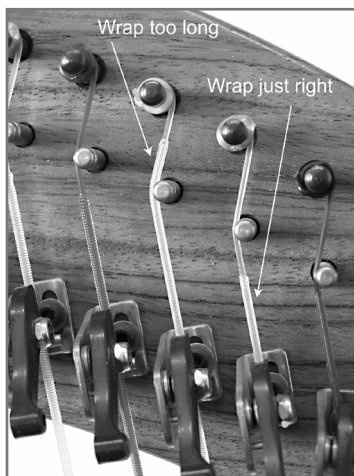

Figure 1: Wrap length
- If the nylon wrap on a wound string stretches over the bridge pin (*figure 1*). The wire wrap on the bass strings of the Ravenna 34 *does* go over the bridge pin and through the tuning pin.